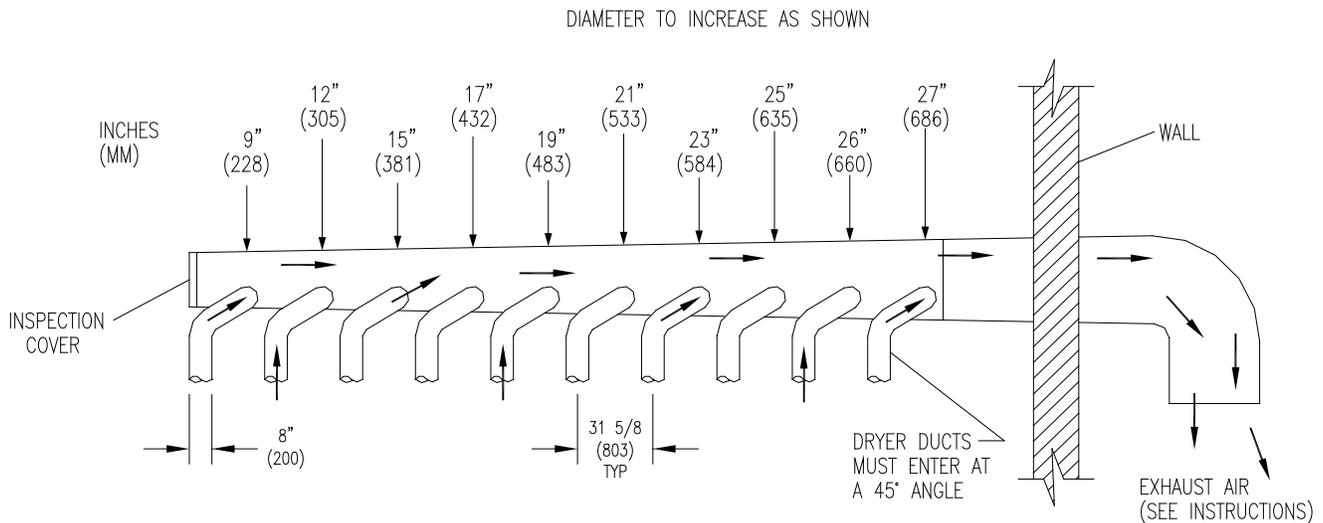

FIGURE 2- Dryer Exhausting Using A Main Discharge Duct.
**6. EXHAUST INSTALLATION.** (Refer to Figure 2 at the end of section 6.) Exhausting of the dryer(s) should be planned and constructed so that no air restrictions occur. Any restriction due to pipe size or type of installation can cause slow drying time, excessive heat, and lint in the room.
Installation of several dryers, where a main discharge duct is necessary, will need the following considerations for installation (see Fig. 2). Individual 8" (200mm) ducts from the dryers into the main discharge duct should be at a 45 degree angle in the direction of discharge air flow.
**NOTE:** Never install the individual 8" ducts at a right angle into the main discharge duct. The individual ducts from the dryers can enter at the sides or bottom of the main discharge duct. Figure 2 indicates the various round main duct diameter to use with the individual dryer ducts. The main duct can be rectangular or round, provided adequate air flow is maintained. For each individual dryer, the total exhausting (main discharge duct plus duct outlet from the dryer) should not exceed the equivalent of 20 feet (6m) and two elbows. The diameter of the main discharge duct at the last dryer must be maintained to exhaust end.